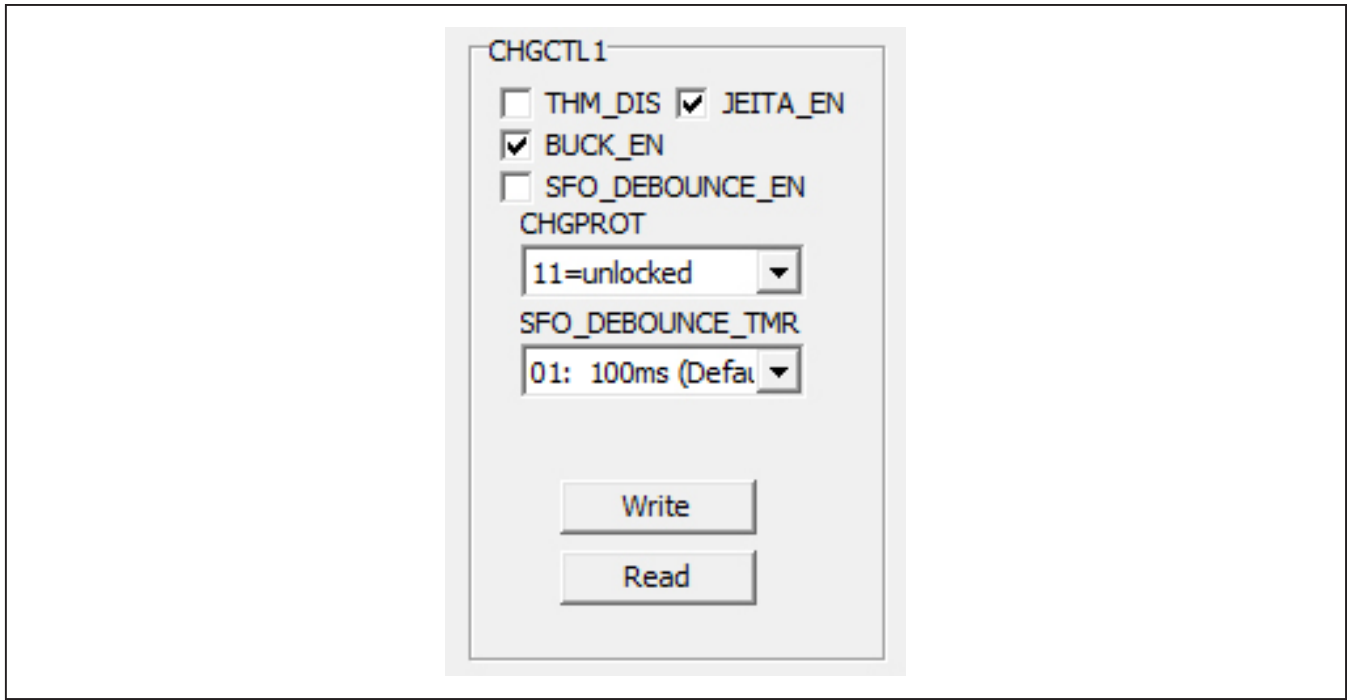

Figure 5. MAX77829 GUI—Charger Configuration 1
- 1) Ensure the EV kit is properly connected and powered. Go to tab CHG_CNFG(1), as shown in Figure 5, and set up the related the settings for the charger settings. A quick setting guide for related